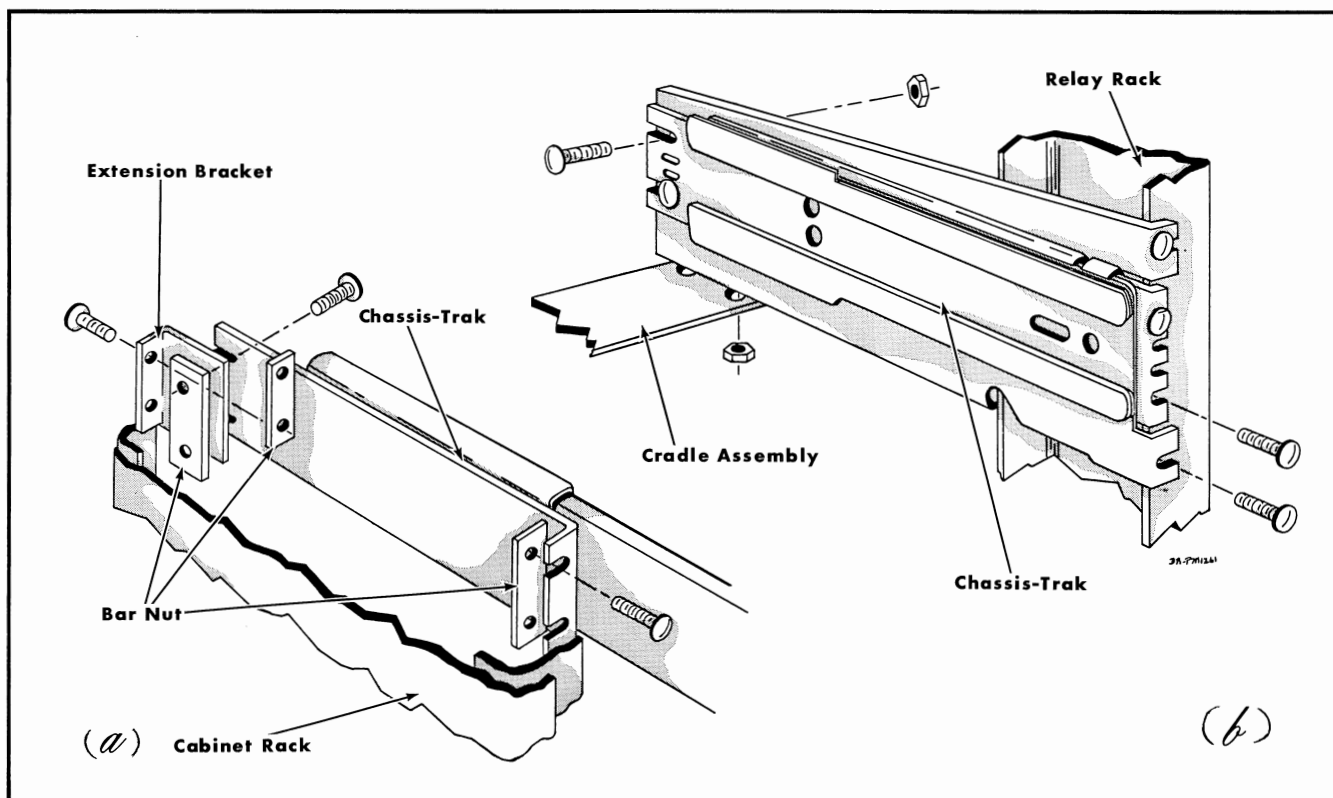

Fig. 2-2. Mounting the Chassis-Trak slides.
3. Slip the front lip of the Chassis-Trak between the cabinet and the bar nut as shown in Figure 2-2.
5. In some types of cabinets you may need the extension brackets furnished with the Chassis-Traks. Figure 2-2 shows you how to assemble the extension brackets furnished with each set of tracks.
1. Bolt the rear of the Chassis-Trak to the rear of the corresponding cradle section using the 8-32 nuts and bolts provided as shown in Figure 2-2.
3. Using Figure 2-2 as a guide, assemble the cradle and Chassis-Trak on the corresponding rails of the relay rack, allowing 2 inches between the center of the top mounting screw and the position you selected for the top of the RM17 front panel.